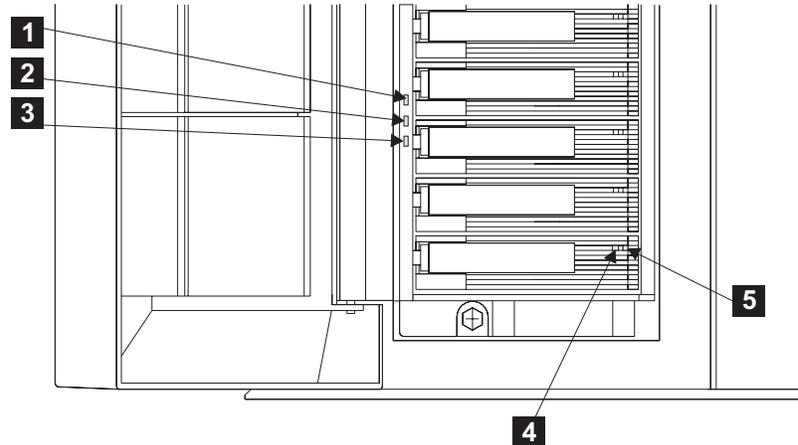

Figure 31. Checking the lights
2. Configuration is complete when the lights on the 2104 Model TS4, and its installed disk drive modules, are as described in Figure 31: